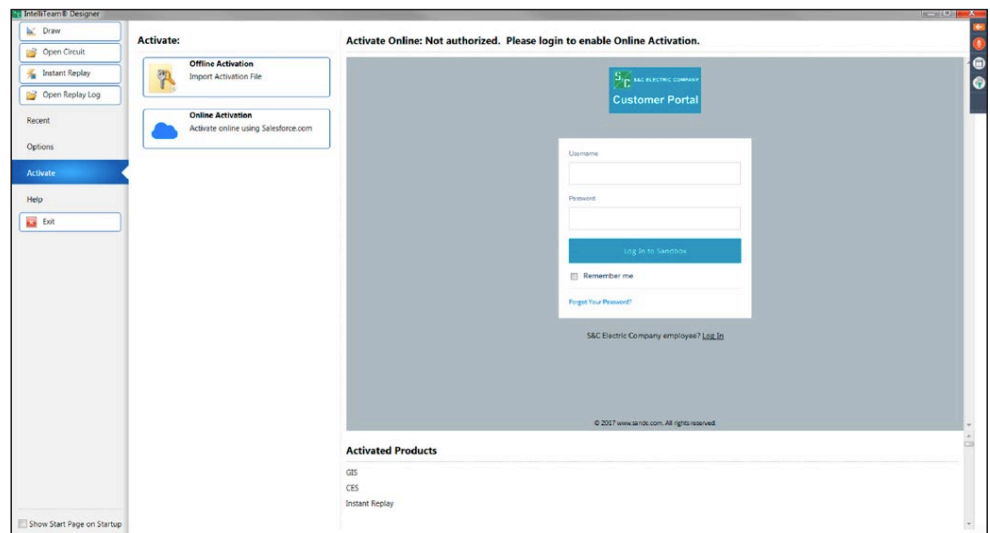

Figure 8. IntelliTeam Designer Start Page, Online Activation Login screen.
- STEP 2.** On the right side of the screen, click on the **Online Activation** button to load the online activation customer portal *Login* screen. See Figure 8.